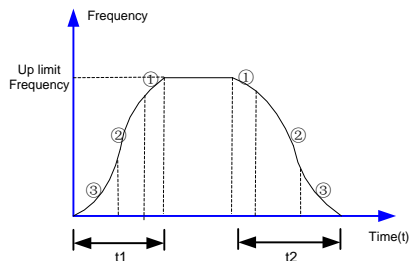

Figure 6-4
1: S-curve acceleration/deceleration. The output frequency increases or decreases along the S curve, showing in figure 6-4.
In Figure 6-4, ③ is the time defined in P1.14, within which the slope of the output frequency change increases gradually. ① is the time defined in P1.15, within which the slope of the output frequency change gradually decreases to 0. Within the time between ① and ③ the slope of the output frequency change remains unchanged, that is, linear acceleration/deceleration.